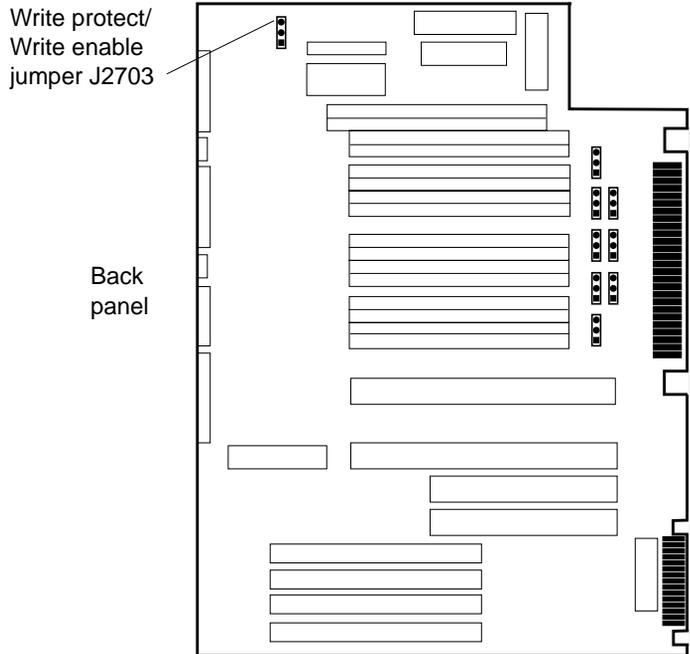

FIGURE 1-5 Sun Ultra 60/Enterprise 220R Flash PROM Jumper Location on Motherboard
- For a Sun Ultra 60 system, see FIGURE 1-5 on page 1-6.
- For a Sun Enterprise 220R system, see FIGURE 1-5 on page 1-6.